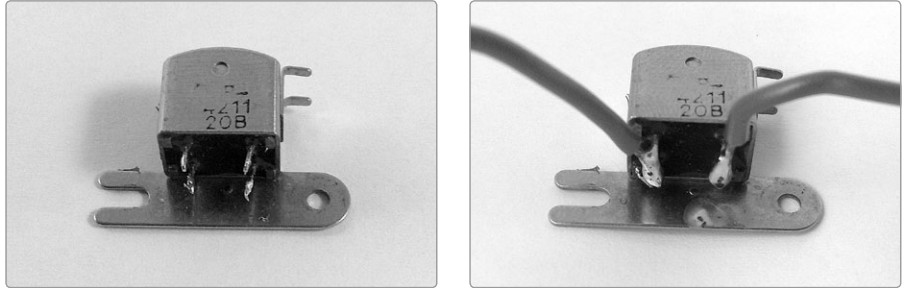

FIGURE 5-11: Wiring the four-terminal play head
If your tape head has four leads, like the one in Figure 5-11, try wiring both the left wires to one lug and both the right wires to the other. It shouldn't matter which pair goes to which lug on the jack, although it's hard to be certain. There are *lots* of half-broken tape decks in the world, and I've mucked around with only a very small percentage. If your first wiring doesn't work, swap 'em, or try just using a single wire from each pair. The worst-case scenario is that something mostly broken becomes completely broken. At that point, you can just tear out the speaker and use it in a new amp, such as the "Dirt-Cheap Amp" on page 363.
Step 11 Next, we need to solder the play head to the wires sticking out of the case. If your play head has only two terminals, then solder one wire to each and be done with it. If it has four, solder one of the two wires to *both* the terminals on one edge of the tape head (see the left image in Figure 5-11). Repeat this step for the other pair (see the right image in Figure 5-11).